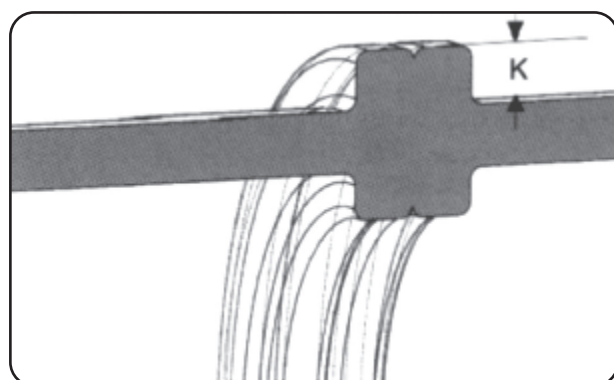

Figure 6: Cross section of beads
The joining pressure (P3-interfaced pressure) has to be kept during the cooling time. After process, a regular double bead must appear. The bead size shows the regularity of welding. Different beads could be caused by different MFR (melt flow rate) of the pipes. K must always be larger than 0 (see figure 6). Minimum time (T5) for this phase is given at Table 1, column 5.
19. After joining with pressure  $0.15 \text{ N/mm}^2$ , a bead must exist. According figure 6, K has to be  $> 0$  on every section